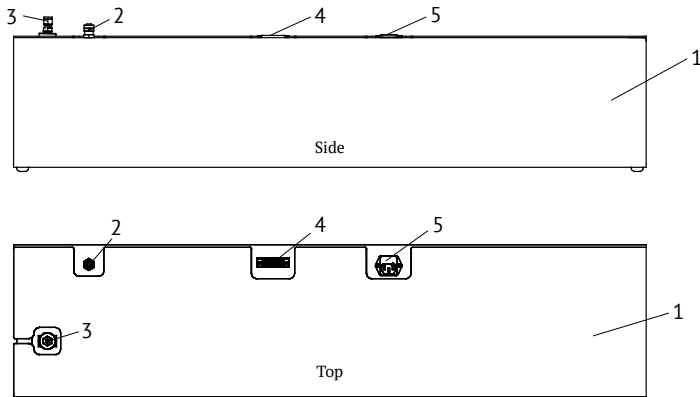

Fig. 3. External view of the power unit:
4.3 The external view of the power unit is given in fig. 3.
4.8 Power unit consists of body 1 (Fig. 3), inside of which there is a rod pump actuated by electric motor by means of ball-and-screw unit. There is also a motor control unit and a power unit of the whole system. Electronic diagram of the system allows to control the engine in a very wide range of speeds, allowing to get different speeds of pressure change.